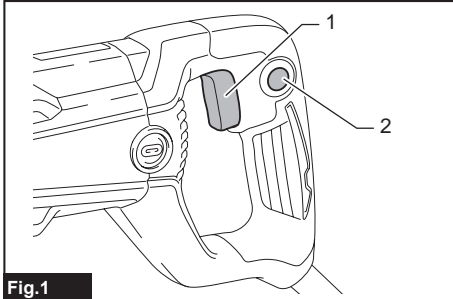

Fig.1
► Fig. 1: 1. Switch trigger 2. Lock button